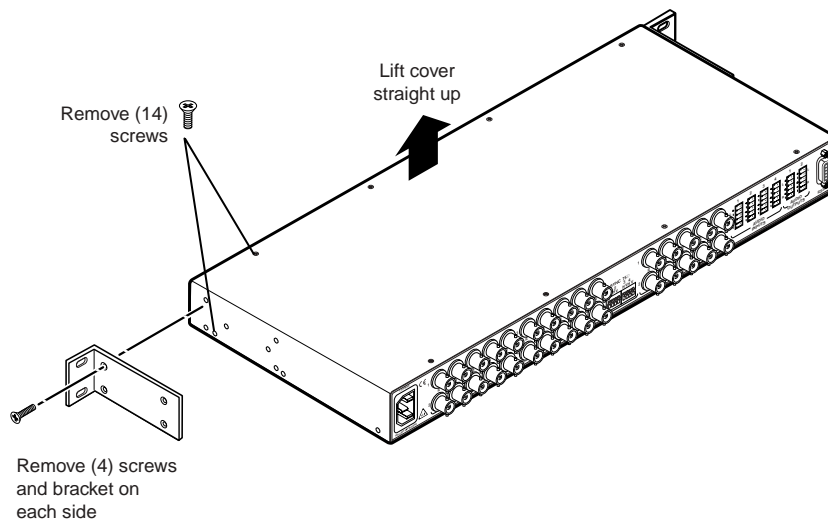

Figure B-1 — Removing the top cover
3. Remove the 14 screws that secure the switcher's top cover as shown in figure B-1.
4. Lift the top cover straight up as shown in figure B-1. Lift the cover evenly to clear the grooves at the edge of the rear panel.